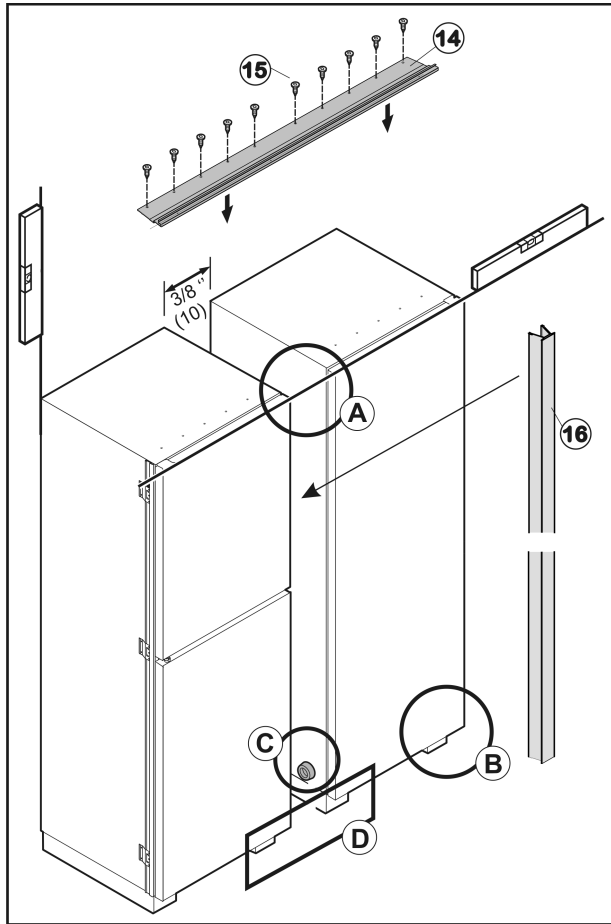
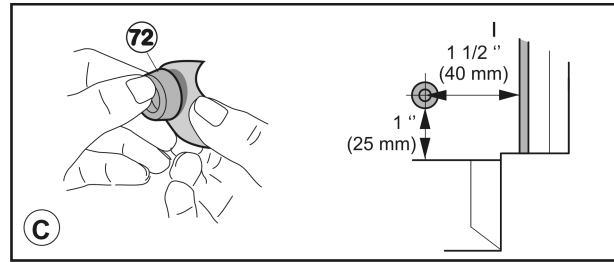
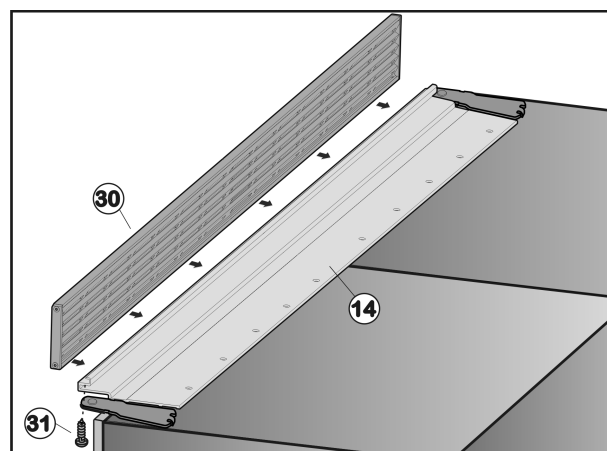
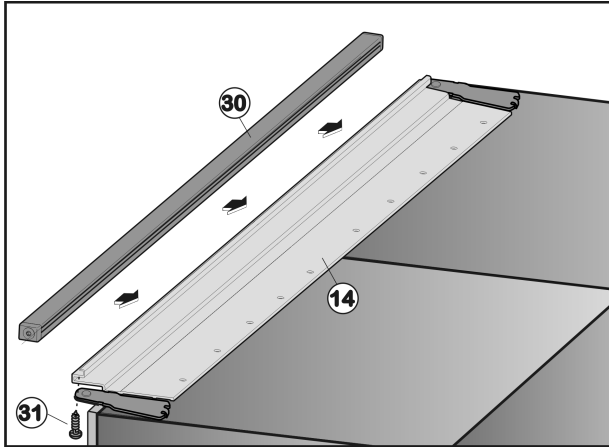

Fig. 42
Fig. 44
Fig. 49
Fig. 50
- Glue spacer Fig. 44 (72) onto the lower part of the side wall on the handle side, approximately 1.5 in. (40 mm) as measured inwards from the front edge of the appliance.
- Position end strip Fig. 42 (14) over the installation contour and align it such that the holes in ventilation grille and installation contour are above each other.
- Screw on upper installation contour Fig. 42 (14) through the pre-cut holes using screws Fig. 44 (15).
- Position ventilation grille Fig. 49 (30) over the installation contour Fig. 42 (14) and align it such that the holes in ventilation grille and installation contour are above each other.
- Screw ventilation grille Fig. 49 (30) to installation contour from below using four screws Fig. 49 (31).
- Position end strip Fig. 50 (30) over the installation contour Fig. 42 (14) and align it such that the holes in ventilation grille and installation contour are above each other.
- Screw end strip Fig. 50 (30) to installation contour from below using four screws Fig. 50 (31).